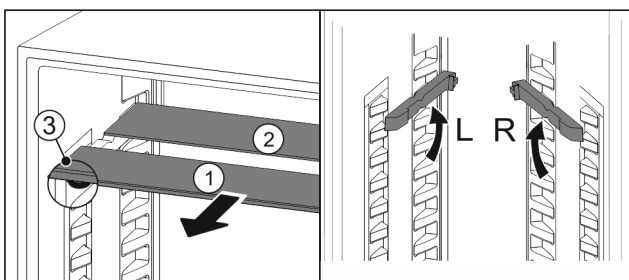

Fig. 26
- Pull the glass panels out Fig. 26 (1) from the front, one at a time.
- ▷ The glass panel Fig. 26 (1) and trim strip are at the front.
- ▷ The stops Fig. 26 (3) point down.